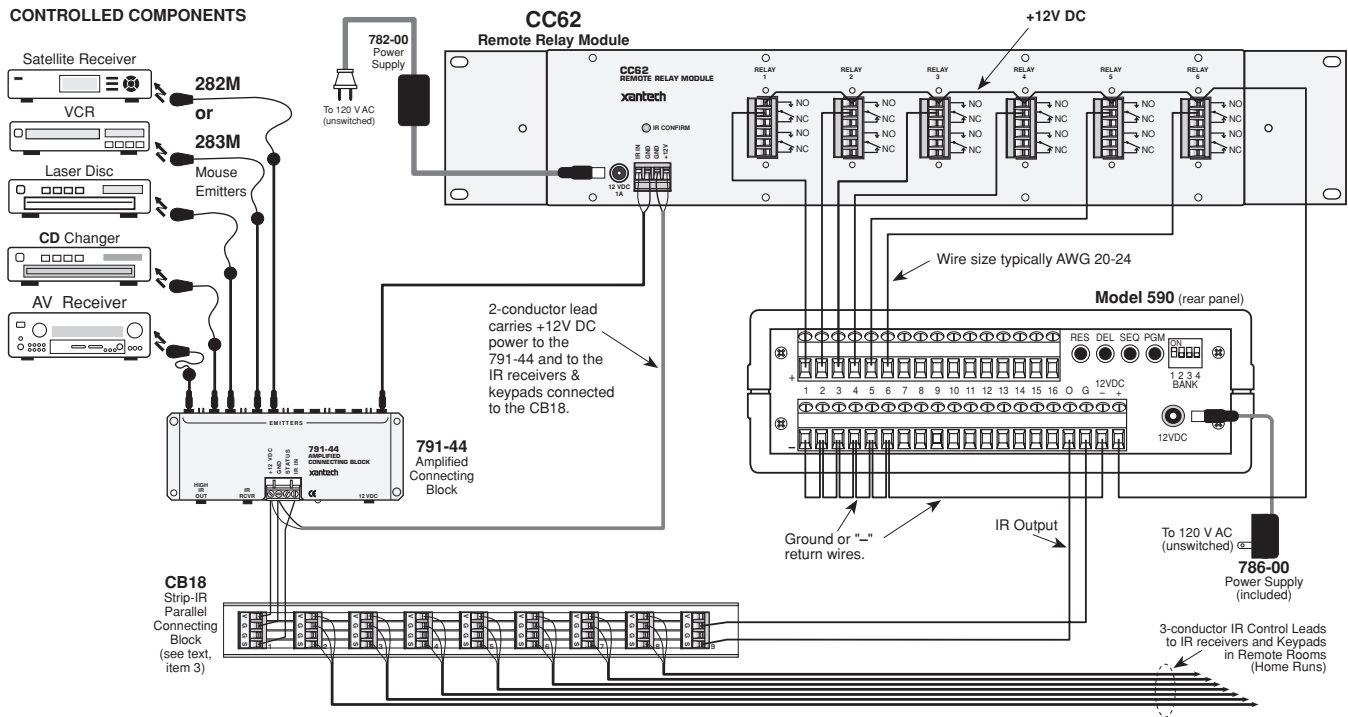

Fig. 5 Using a CC62 to provide switch closures for a 590 Programmable Controller
- Another important application of the CC62 is to provide IR-to-switch closures for a 590 Programmable Controller. This permits multiple sequenced commands to be generated from a single RC68+ IR command or to convert RC68+ commands to other brand commands. **Fig. 5** illustrates such a system. Up to 16 independent closures are possible by using as many as three CC62's with a 590-00. Use Momentary On programming.
3. A CB18 Strip-IR Connecting Block is used in **Fig. 5** to make the many parallel connections from the IR devices to the 791-44 Connecting Block. In this example, 8 IR devices are shown connected to the